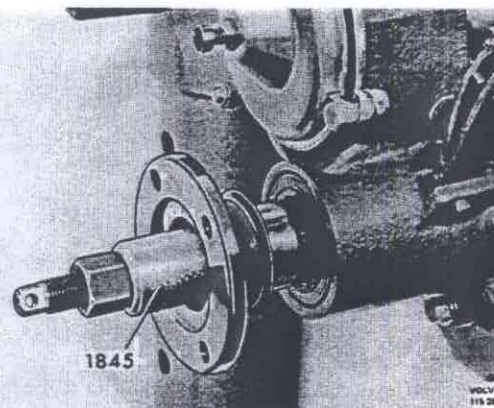

Fig. 43-35. Pressing flange
7. Pull on the flange with 1845, see Fig. 43-35. Remove the tool and fit 2837. Fit the nut and tighten it to a torque of 280–300 Nm (28–30 kpm = 202–217 lbftf).